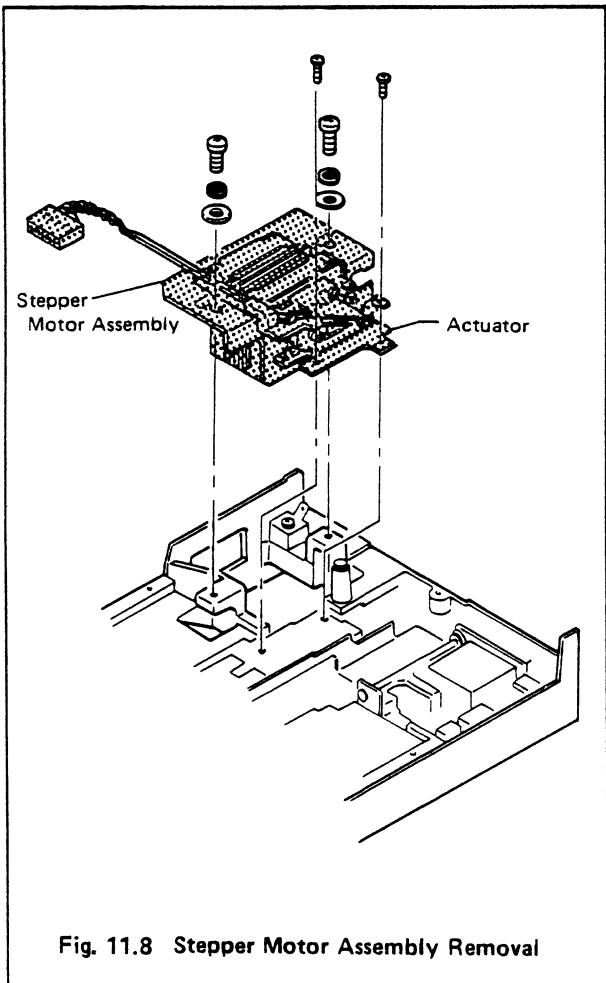

Fig. 11.8 Stepper Motor Assembly Removal
11.8 Stepper Motor Assembly Removal and Installation (See Fig. 11.8)